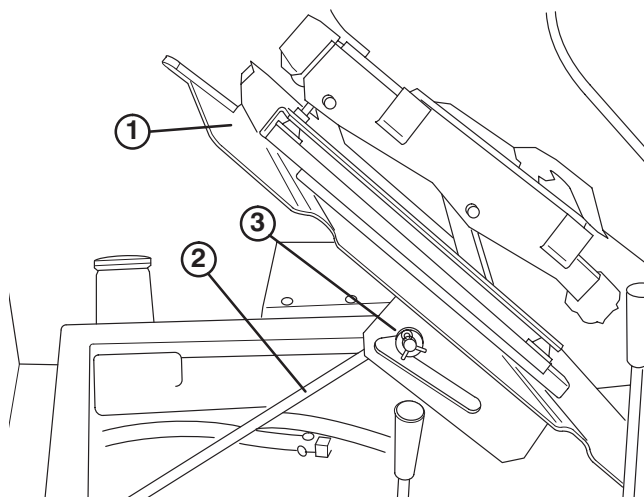

Figure 5
4. Hold mounting plate in upright position with support rod (Fig. 5).
3. Hold mounting plate in upright position with support rod (Fig. 5).